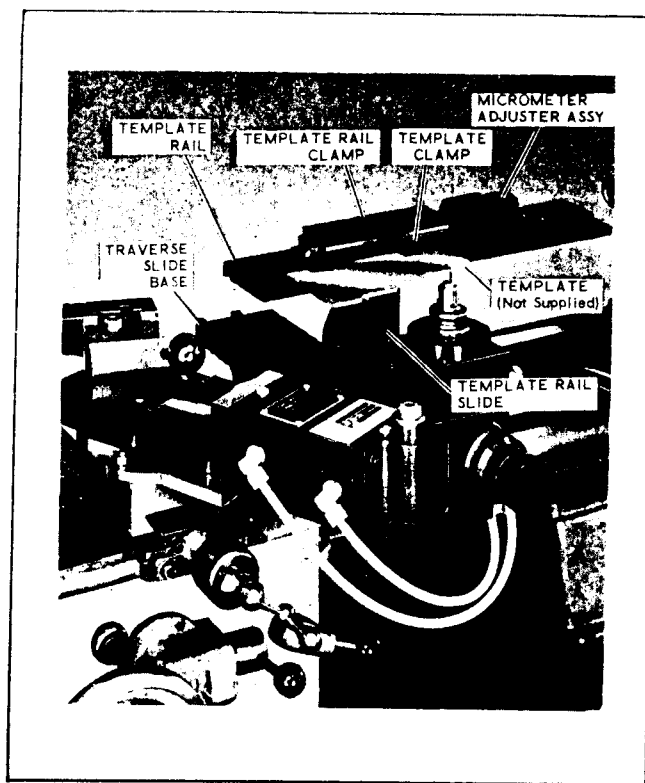
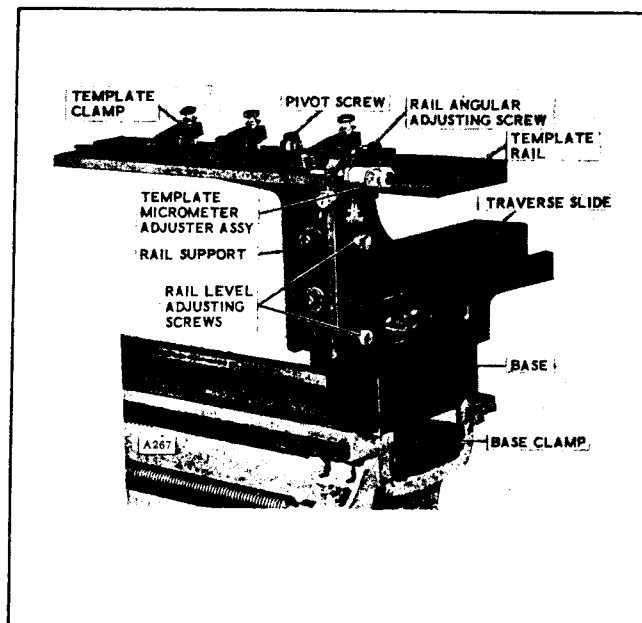

Figure 1-5. #40640 Template Rail Assembly.
Figure 1-6. #40685 Template Rail Assembly.
e. The template rail assembly provided as standard equipment with the Mark "O" Series is shown in figure 1-5. The template rail assembly provided as standard equipment with the Mark "O-A" Series is shown in figure 1-6. Each template rail assembly